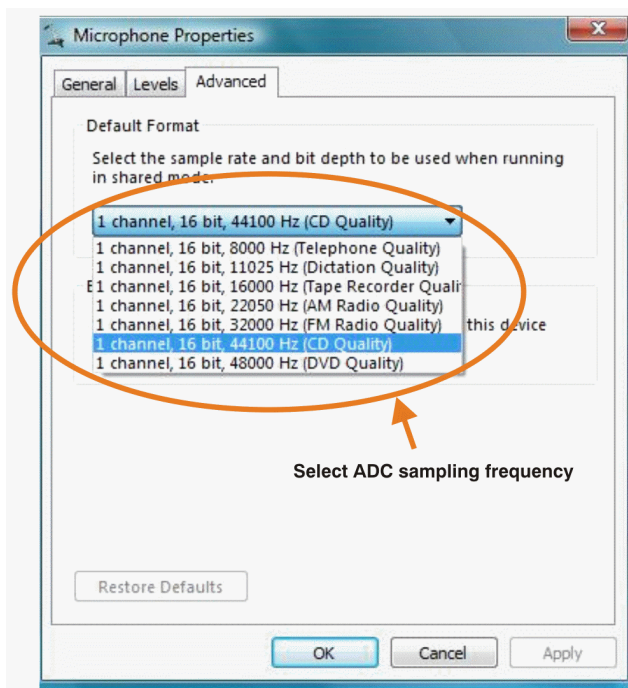

Figure 3-6. Microphone Properties—Advanced Tab (Windows Vista)
2. Open the microphone properties of the USB audio codec from the Sound options and select the *Advanced* tab, as Figure 3-6 illustrates.